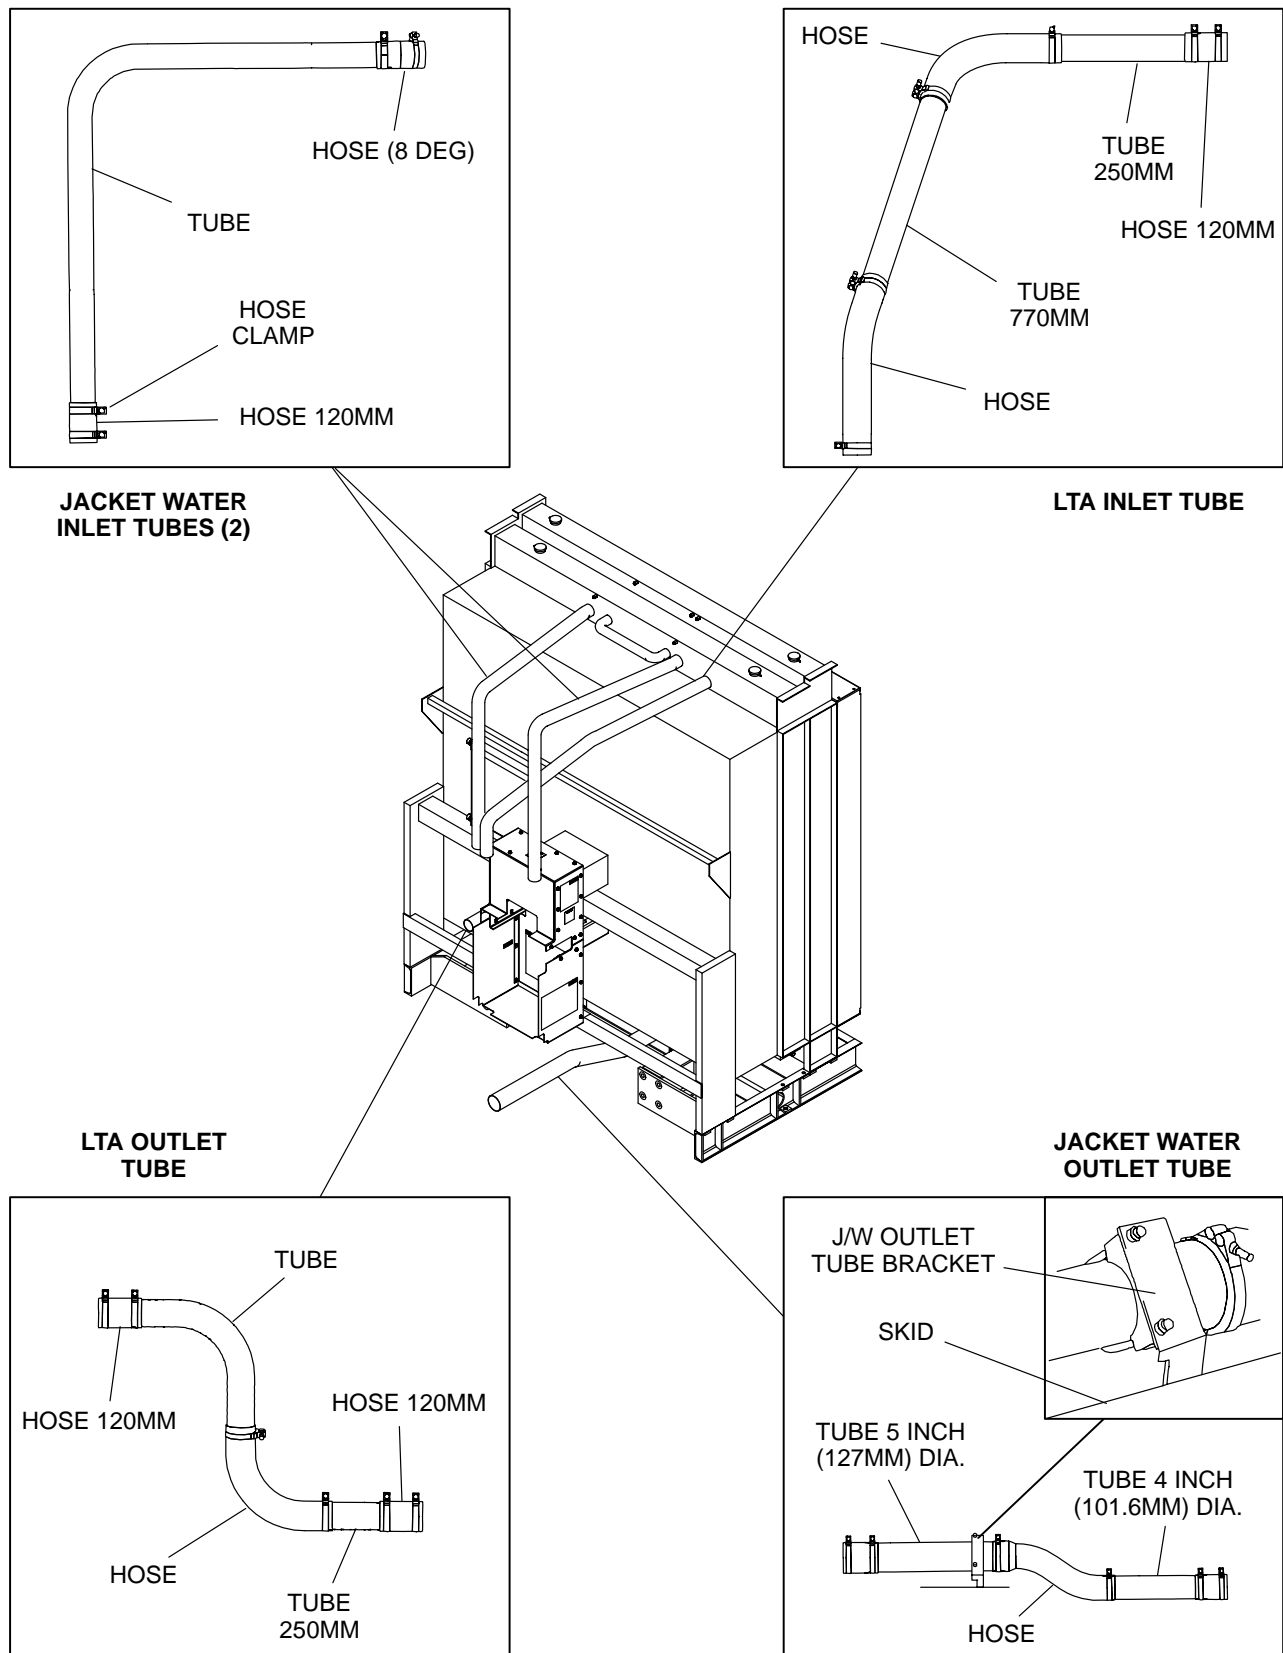

FIGURE 9-2. RADIATOR TUBES
1. Install the J/W outlet tube bracket (Figure 9-2) to the skid using two M8 x 25 mm screws.